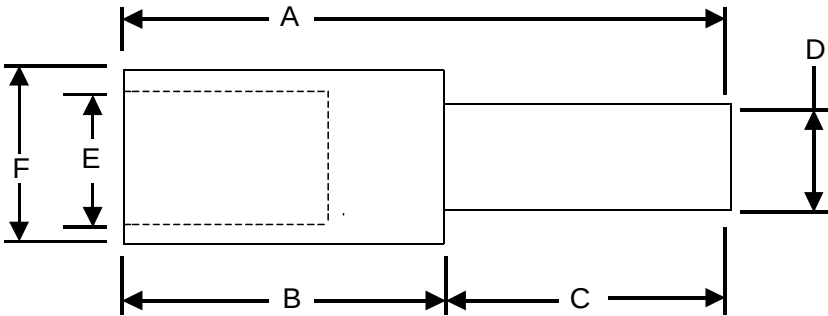

Figure 4-7: Mechanical Seal Installation/Removal Tool
- (1) Disassemble the pump only to the extent required to access the seal in casing cover and impeller (3). Refer to Remove Centrifugal Pump Components.
- (2) Remove old mechanical seal (7) from casing cover (2) using a driver similar to the driver in Figure 4-7.